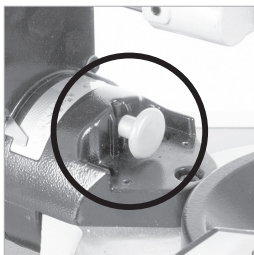

Fig. 17
- Pull out the Right Hand Bevel Access Locking Pin and twist it ¼ of a turn to hold it in the disengaged position. This will enable access to the right hand bevel angles. **(Fig. 17)**